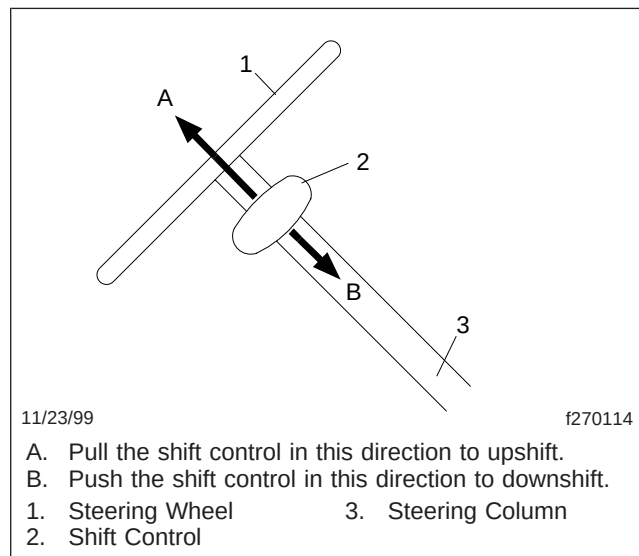

Fig. 8.3, SmartShift Control Operation
The AutoShift ASX is a partially automated 6-speed or 7-speed Eaton Fuller transmission. The AutoShift AS2 is a partially automated 10-speed Eaton Fuller transmission. On all models, the driver must use the clutch and put the transmission in neutral to start and stop the vehicle. The SmartShift transmission shift control (**Fig. 8.3**) is used with the AutoShift transmission.
2. With the transmission in drive in the manual mode, request an upshift by pulling upward on the control. See **Fig. 8.3**. If the requested gear is available, the transmission will upshift.